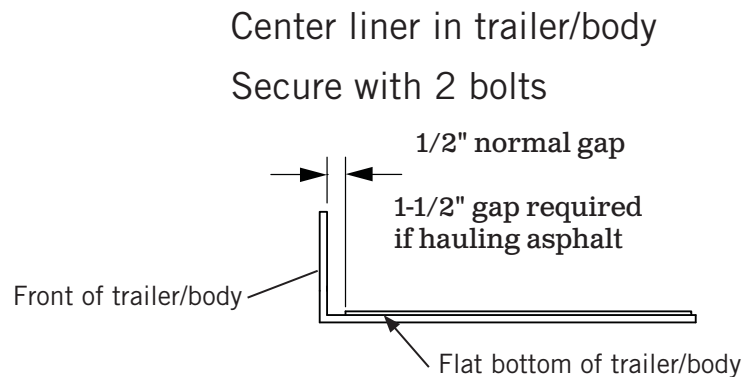

Figure 11
- 3) **See Figures 11.** Line up center marks on trailer/body and liner with marks made in STEP 2, leave an appropriate gap between the liner and bulkhead.